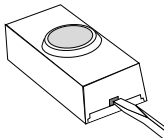

Figure 1
- 1. Install alkaline type A23 12 volt push button battery.** Remove back of case by pushing in tab on bottom with a small screwdriver (see Figure 1). Make sure battery is oriented properly (See page 4).